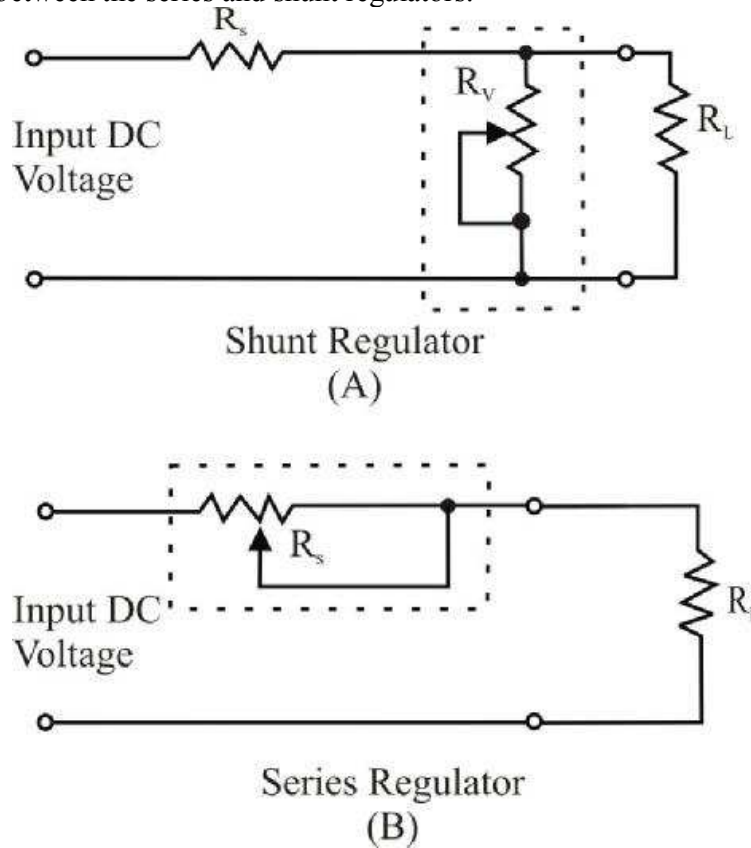
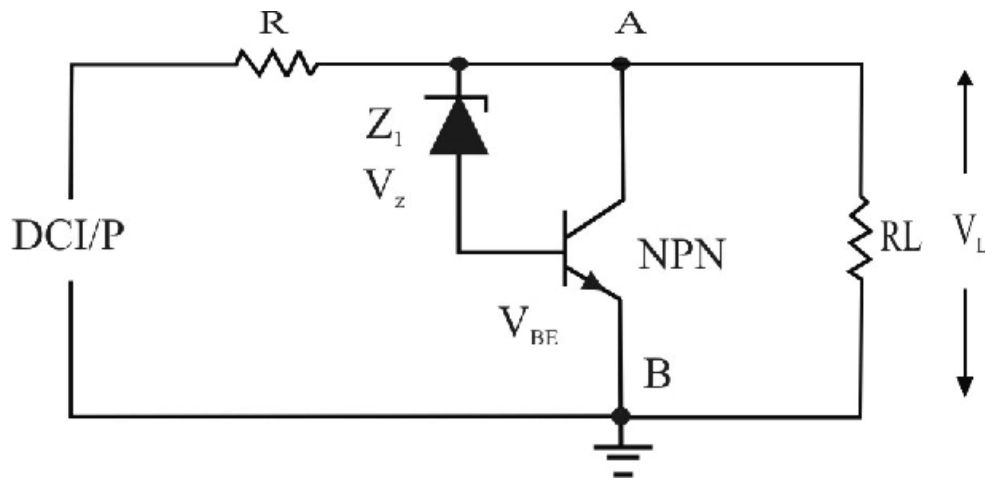

Figure 2
Figure 3
There are two types of voltage regulators. Basic voltage regulators are classified as either *Series* or *Shunt*, depending on the location or position of the regulating element (s) in relation to the circuit load resistance. Figure 2 illustrates these two basic types of voltage regulators. Broken lines have been used in the Figure to highlight the difference between the series and shunt regulators.
The schematic drawing in view A is that of a shunt regulator. It is called shunt regulator because the regulating device is connected in shunt or in parallel with the load resistance. Figure 2 illustrates the principle of shunt voltage regulation. From the Figure it is clear that the regulator is in shunt with the load resistance (R_L). In a shunt voltage regulator, as shown in Figure 2, Output voltage regulation is determined by parallel resistance of the regulating device, the Load resistance (R_L), and the series resistor R_s . If the load resistance R_L increases/decreases, the regulating device decreases/increases its resistance to compensate for the change.
The schematic for a typical series voltage regulator is shown in Figure 3. It employs the NPN transistor in shunt configuration in place of the variable resistor found in Figure 2.
- The result of Experiment 1 reveal that for the network of Figure 3 with a fixed input voltage V_{in} the output voltage will remain close to 6.3 V for a range of load resistance that extends from _____ to _____ .